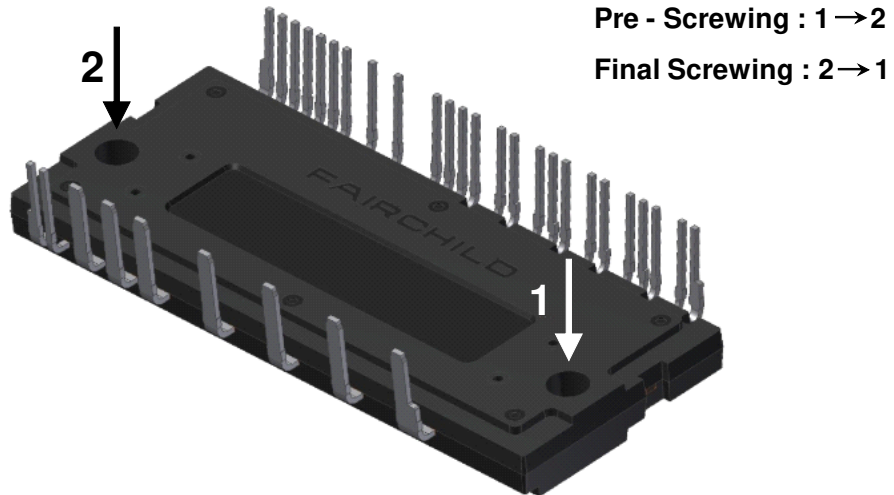

Figure 10. Mounting Screws Torque Order
- 13. Avoid one-sided tightening stress. Figure 10 shows the recommended torque order for the mounting screws. Uneven mounting can cause the DBC substrate of package to be damaged. The pre-screwing torque is set to 20 ~ 30% of maximum torque rating.